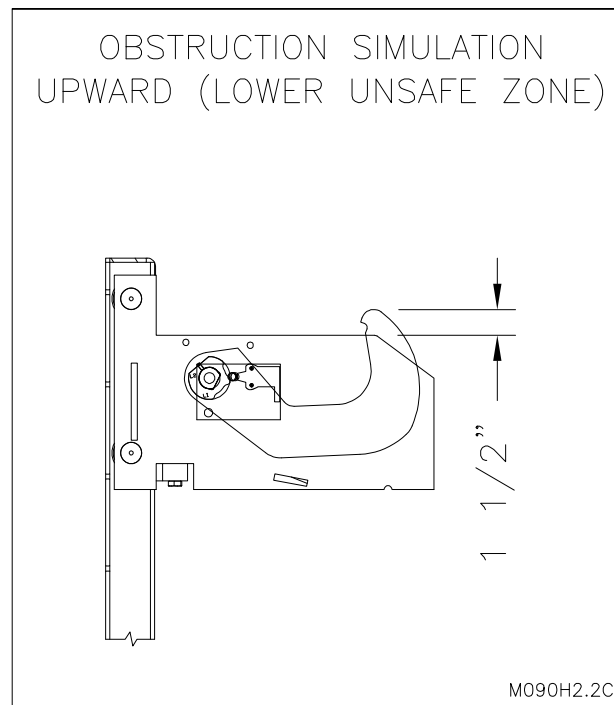

Figure 14: Hook Simulation Lower Unsafe Zone
4. Insert a 3/8 bolt long enough to span the side plates through hole locations "**A**" (See "Figure 14: Hook Simulation Lower Unsafe Zone" on page 23). Turn selector switch to "**ENGAGE**". The **inside RED** light must be illuminated flashing (1 second on 1 second off). The **outside RED** light must be illuminated (solid) and the audible alarm must be pulsing (1 second on, 1 second off). This simulates an obstruction. Return vehicle restraint to the **STORED** position and remove bolt after testing.